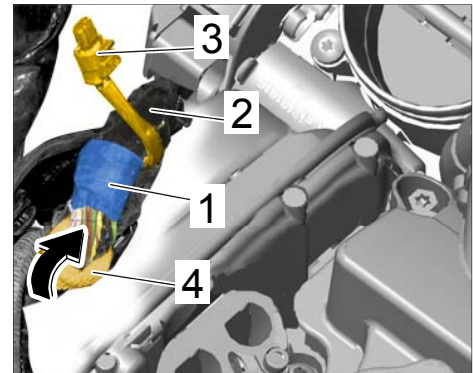

Figure 5
4.11 Wrap fabric tape ⇒ *Figure 5 -item 1-* around the main wire harness ⇒ *Figure 5 -item 2-* and connector wires ⇒ *Figure 5 -item 3-* again.
4.12 Pull sleeve ⇒ *Figure 5 -item 4-* back to its original position on the main wire harness ⇒ *Figure 5 -item 2-*.